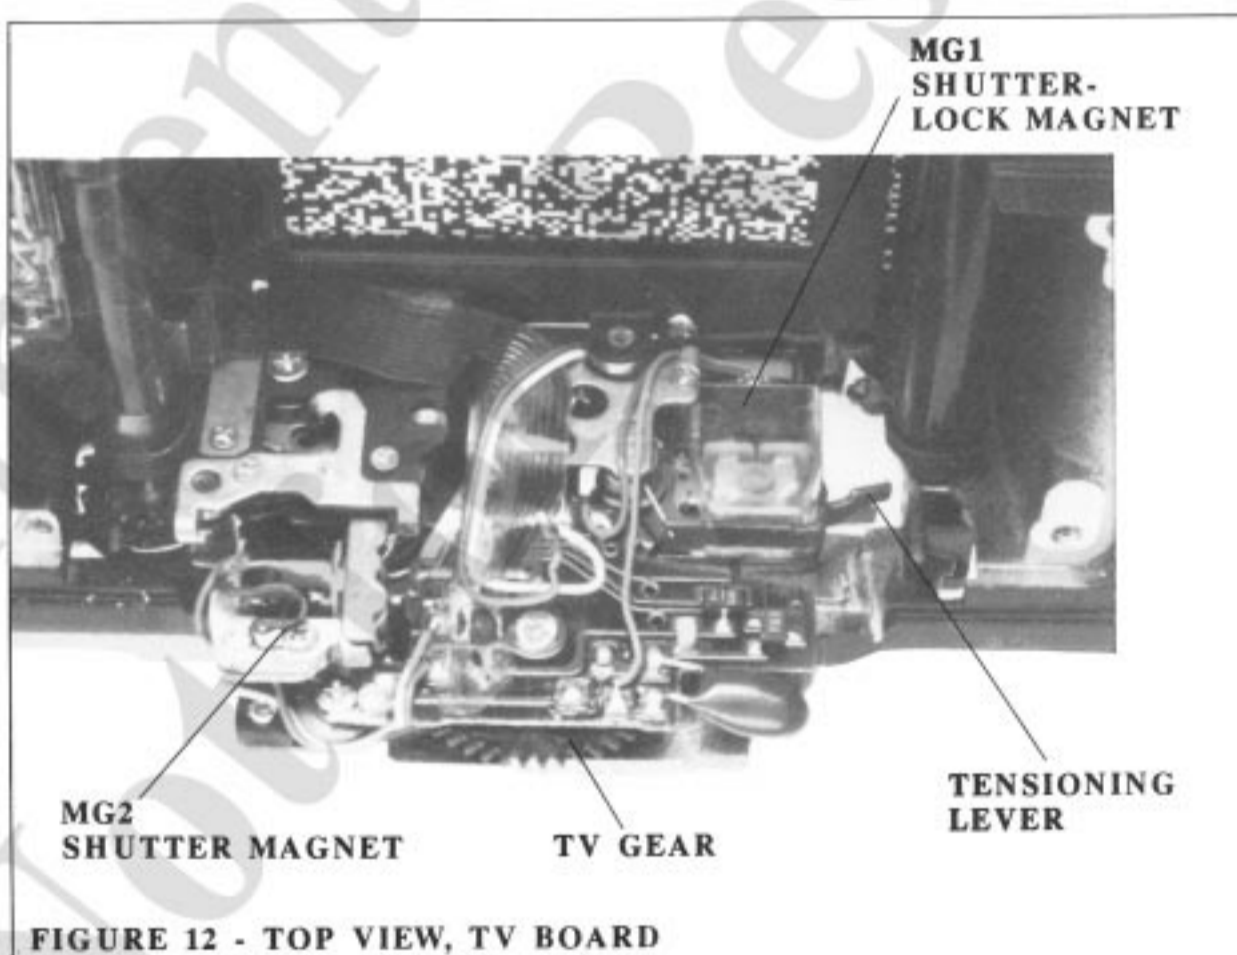

FIGURE 12 - TOP VIEW, TV BOARD
1. MG1. Hybrid shutter-lock magnet on TV board, Fig. 12. Repels its armature to release the 1st curtain after the main switch closes.
2. MG2. Electromagnet for shutter-speed control on TV board, Fig. 12.
1. Set the shutter-speed ring on the mirror box to bulb. Also set the TV gear, Fig. 12, to bulb. At bulb, a dot on the TV gear points to the front of the camera (you can see two TV-gear dots at bulb). To quickly find bulb, first cock the shutter. Then depress the release plate and turn the TV gear until the bulb latch, Fig. 12, moves toward the shutter gears.